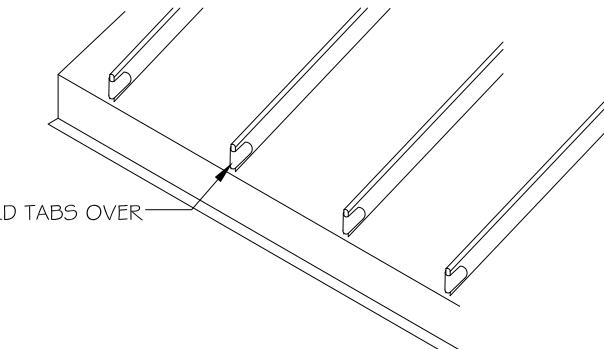

Fig. 5
8. Fold the rib tab over. See other ribs for reference. See Fig 5